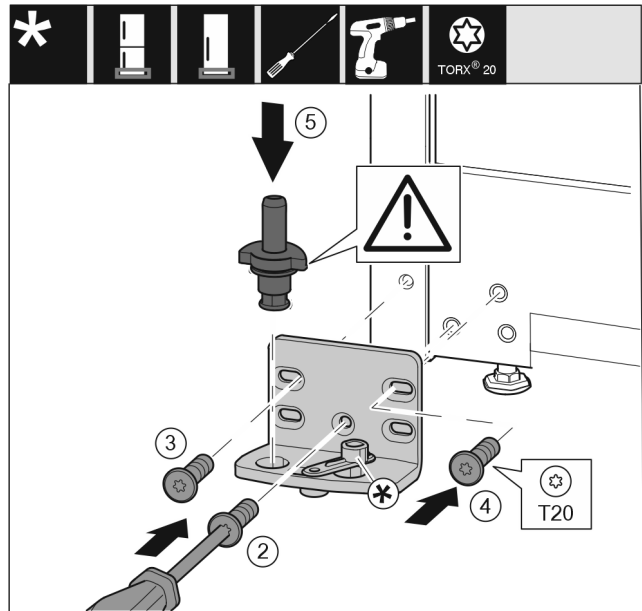

Fig. 20
- ▶ Place the swap bearing block on the other side and use a screwdriver to screw it on. Start with the screw Fig. 20 (2) at the bottom in the middle.
- ▶ Tighten screw Fig. 20 (3) and screw Fig. 20 (4).
- ▶ Insert the bearing bolt Fig. 20 (5) completely. Ensure that the latching cam is pointing towards the rear.